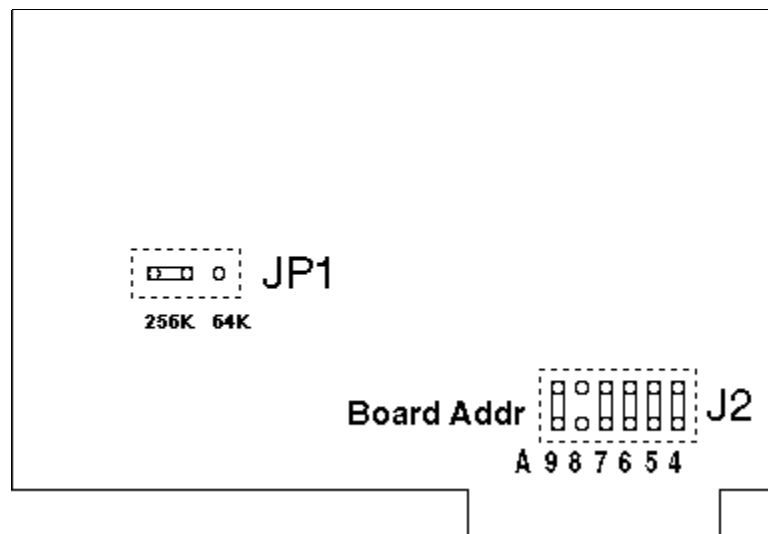

Figure 69. 256K Advanced Trace Board Jumpers and Headers
- The ATR256 trace board has a memory configuration with the jumper top on the left (Figure 69).